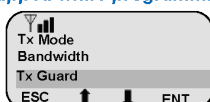

Figure 12
12. Highlight "Tx Guard" and press "ENT". (See Figure 12)